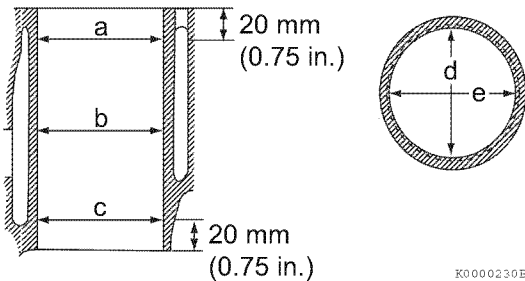

Figure 5-114
5. Take measurements at three places (a, b, c, **Figure 5-114**), and in two directions (d and e, **Figure 5-114**) in each cylinder.